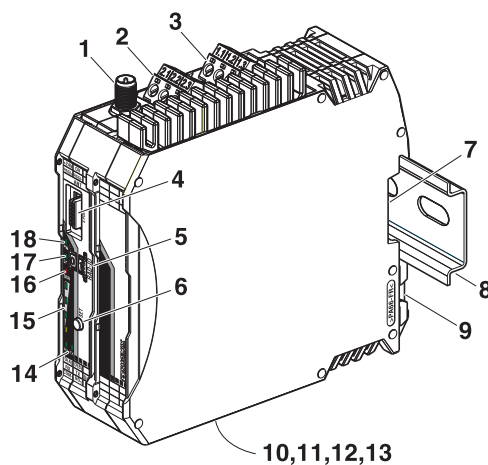

Figure 4-1 RAD-900-IFS structure
- Connect the single wires of the data cable to the COMBICON plug-in screw terminal block (Figure 4-1, item 10).